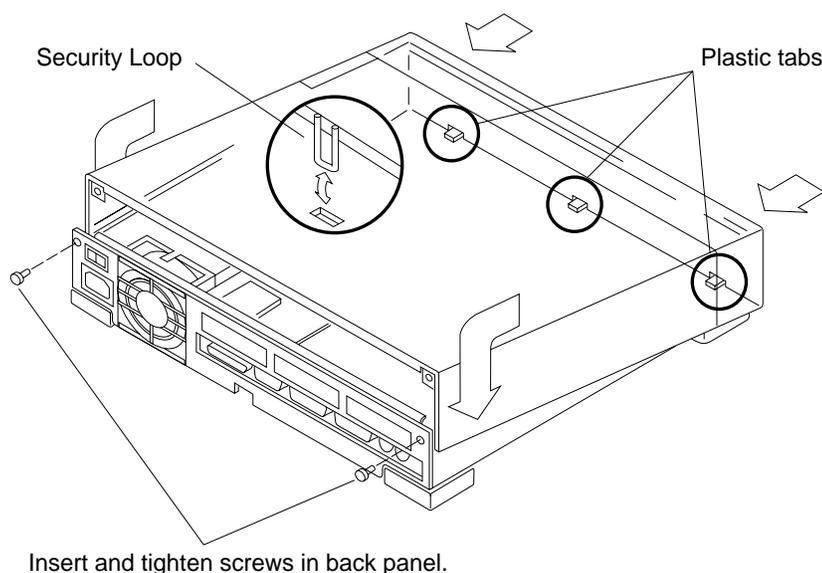

Figure 2-9 Replacing the Cover on the System Unit
4. **Hold the cover at an angle of approximately 30 degrees in relation to the system unit chassis (front end down, back end up). Gently guide the plastic tabs on the front of the cover into the tab slots on the front of the chassis (see Figure 2-9). Continue to hold the cover with your hands.**